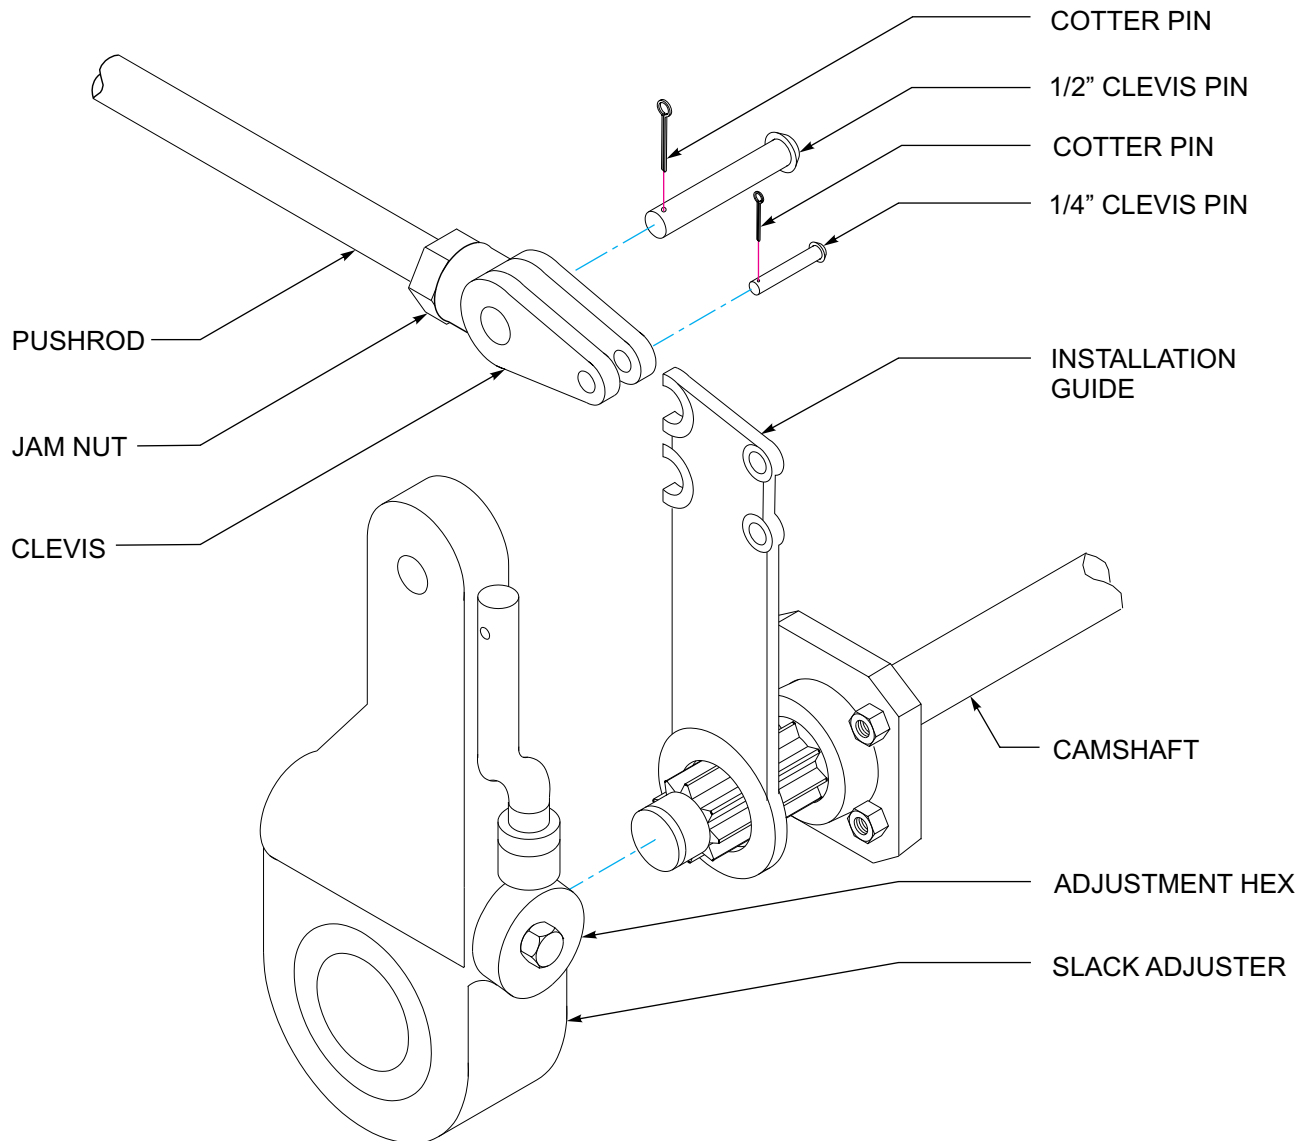

Figure 4-12: Slack Adjuster
4. Disconnect the slack adjuster from the connecting rod by removing the clevis pin (See Figure 4-12.)
4. Remount the brake chamber on the axle brackets and reconnect the air service hoses and the slack adjuster connecting rod (See Figure 4-12.)
2. Check that the push rod is fully retracted, apply air to release spring brake (See Figure 4-12.)
3. Remove the existing slack adjuster and clevis - DO NOT REMOVE EXISTING JAM NUT (See Figure 4-12.)
1. Rotate the manual adjuster clockwise until brake shoes contact drum **(See Figure 4-12.)**